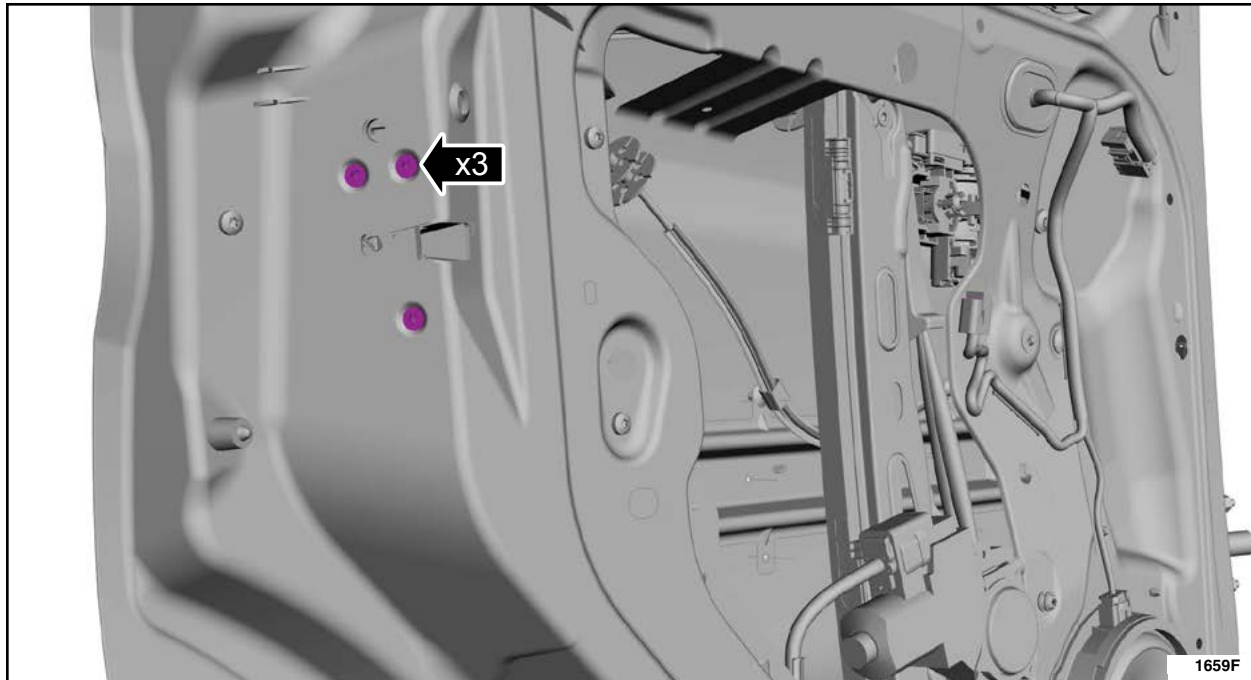

FIGURE 12
5. Remove the sliding door latch bolts. See Figure 12.